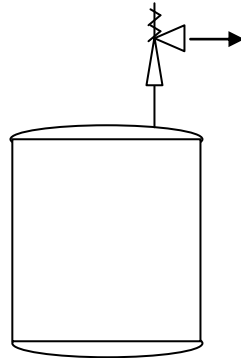

Figure 1
1. Non toxic, non flammable, non environmentally damaging, inexpensive materials may be vented directly to the atmosphere. Examples would be steam or water. See Figure 1.